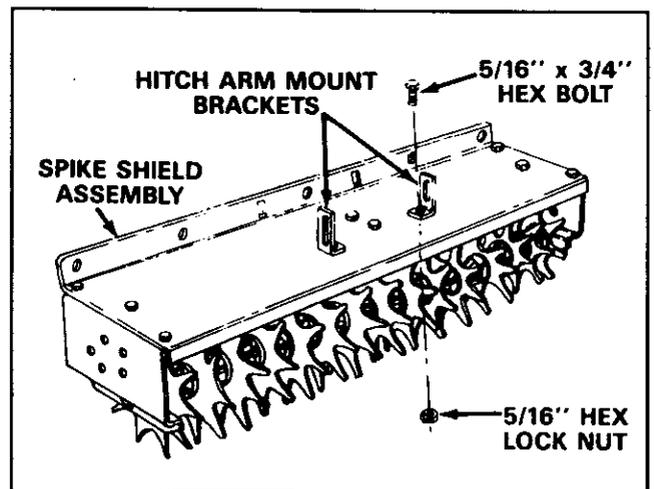

FIGURE 1
- (2) 9/16" Wrenches
- Assemble two hitch arm mount brackets to the spike shield assembly using two 5/16" x 3/4" hex bolts and 5/16" hex lock nuts. **Do not tighten at yet.** See figure 1.